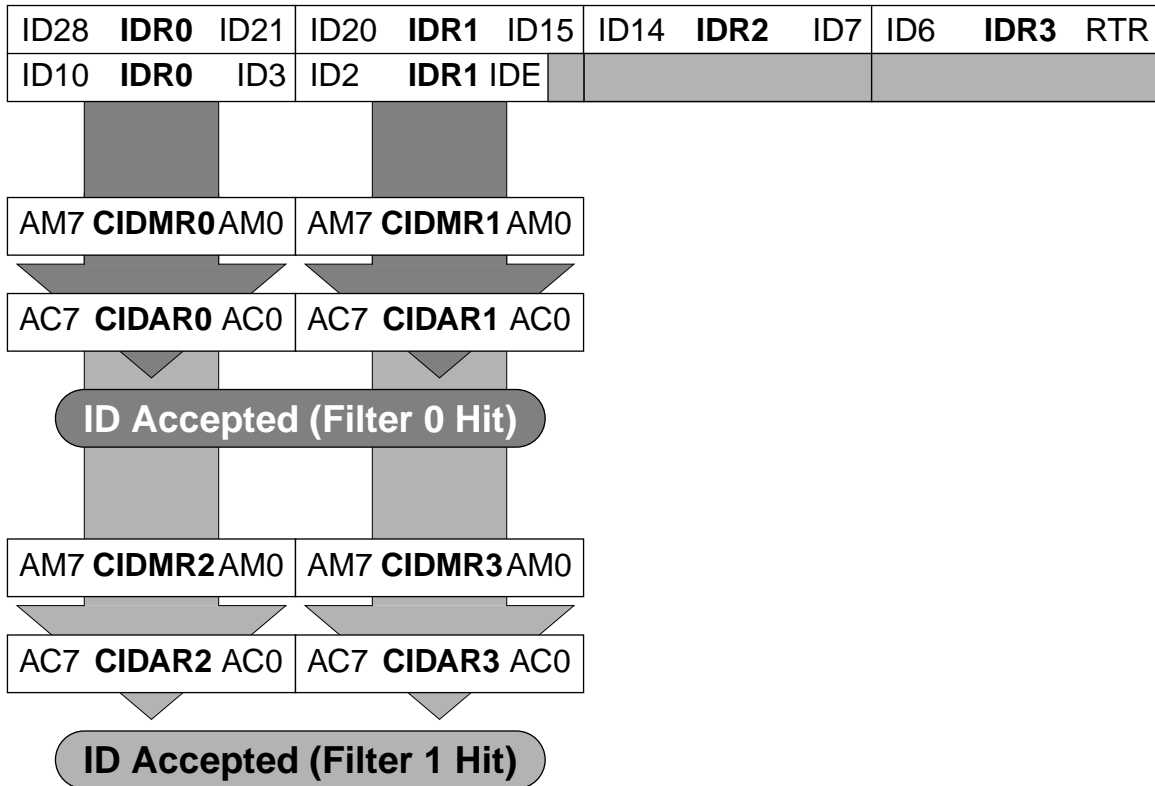

Figure 28 16-bit Maskable Acceptance Filters
- Four identifier acceptance filters, each to be applied to a) the 11 bits of the identifier and the RTR bit of CAN 2.0A messages or b) the 14 most significant bits of the identifier of CAN 2.0B messages. **Figure 28** shows how the first 32-bit filter bank (CIDAR0-3, CIDMR0-3) produces filter 0 and 1 hits. Similarly, the second filter bank (CIDAR4-7, CIDMR4-7) produces filter 2 and 3 hits.